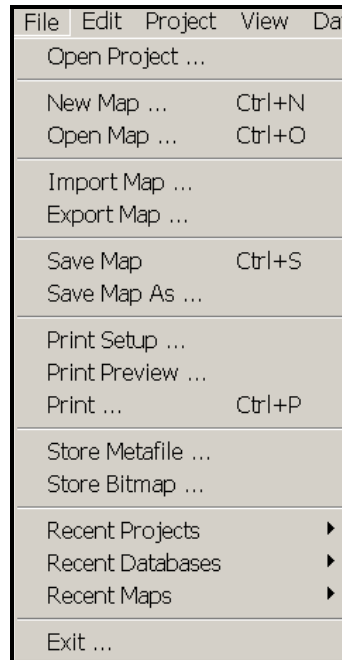

Figure 3. File Menu
As shown in Figure 3, the **File** menu contains sixteen (16) choices. Each item is discussed below.